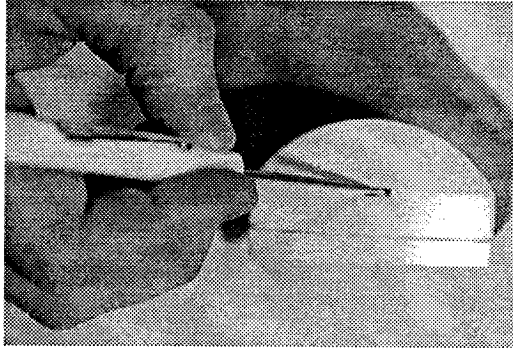

Figure C.6. Opening Cover
1. Open the cover on the PIR (see Figure C.6).